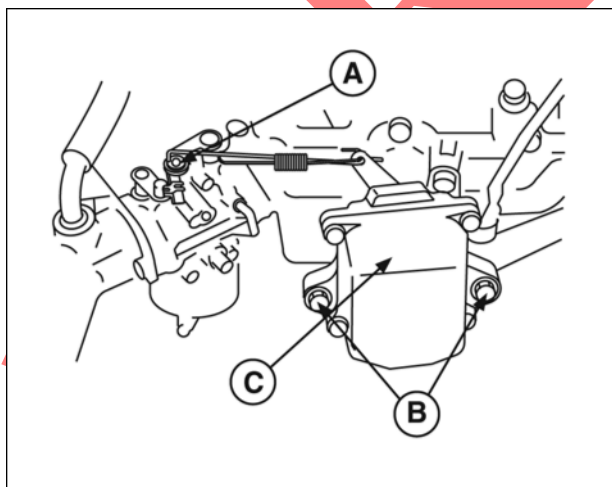

Figure 30
1. Disconnect governor link spring and link (A, Figure 30).
2. Remove two screws (B) and actuator (C).